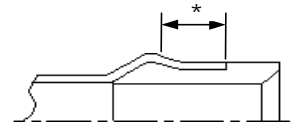

Figure 45. Portion to be heated
- Remove the tube from the sleeve holder and, using a heat gun, heat the portion marked with an asterisk (\*) in Figure 45, in order to ensure close contact of the tube with the sleeve.